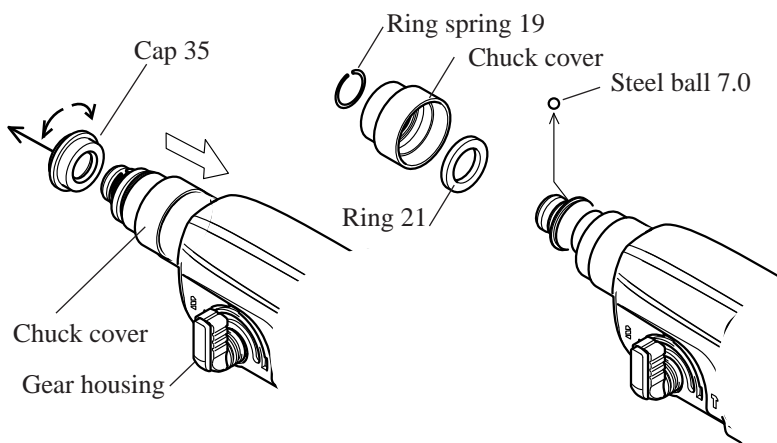

Fig. 1
1. Slide chuck cover in the direction of gear housing, and pull out cap 35 by turning. See Fig. 1.
4. Slide chuck cover in the direction of gear housing, and assemble cap 35 by turning. See Fig. 1.